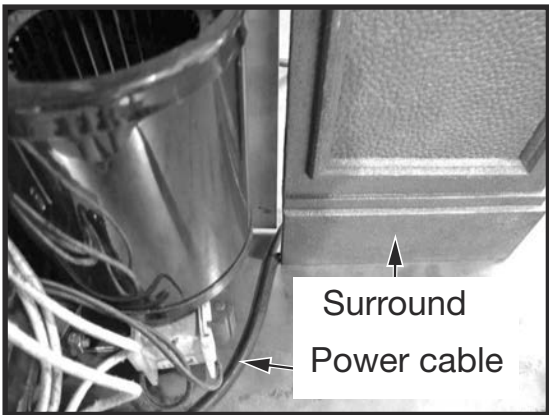

Figure 31: Routing power cable through the surround.
9. Reconnect the wires to the fans (Figure 29) and re-attach thermal snap switch (Figure 30). Refit ash lip, sides and top. Ensure that the power cable is correctly routed through the surround and it is not touching the firebox side (Figure 31). Wire placement is important to prevent damage to wires.